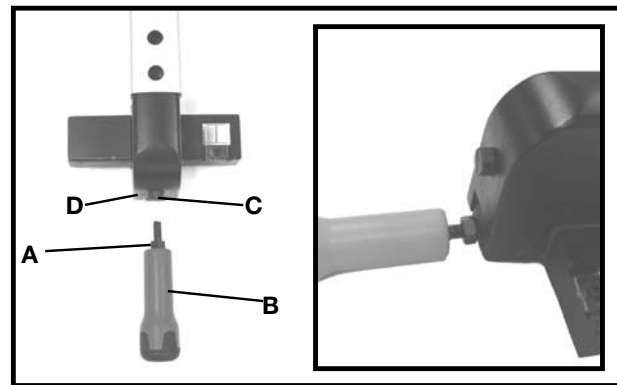

Fig. 26
1. Thread the M8x1.25 hex nut (A) Fig. 26, approximately halfway on the stud of the handle (B).
2. Thread the handle (B) Fig. 26 into the tapped hole (C) in the fence cam (D). Tighten the hex nut (A) Fig. 26 against the cam (D).